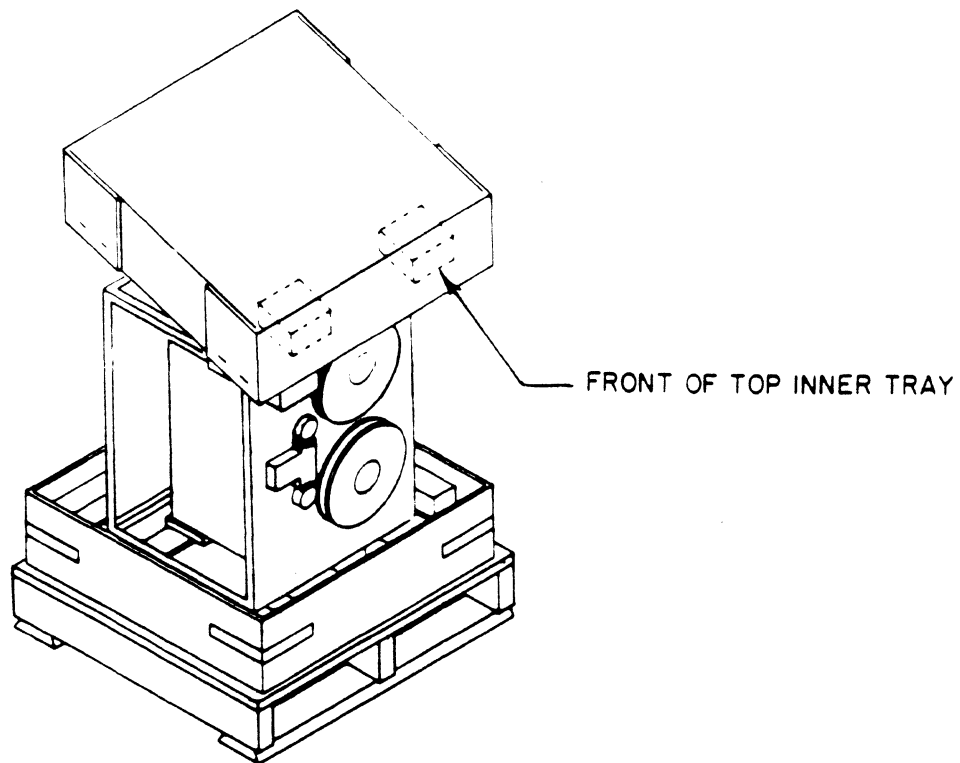

Figure 3-19. S10 Shipping Preparations
- g. Tilt front of formed top inner tray down and place front of top inner tray over top of tape drive. Then push top inner tray down over tape drive frame so that ethafoam strips on inside of top inner tray seat on top of tape drive frame (refer to figure 3-19).